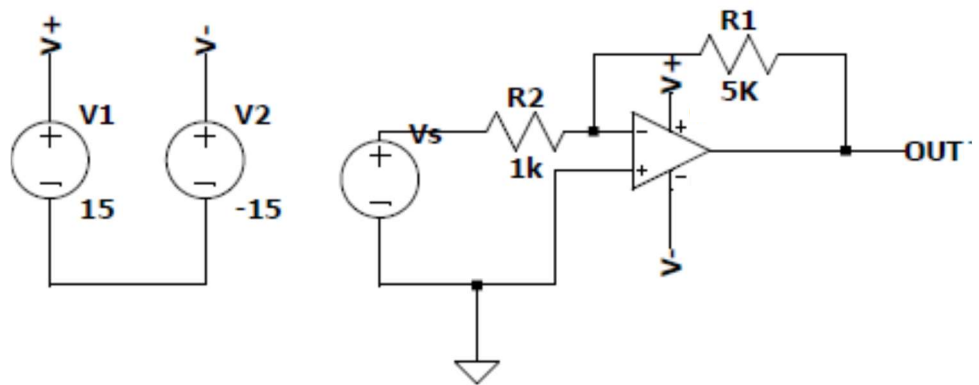
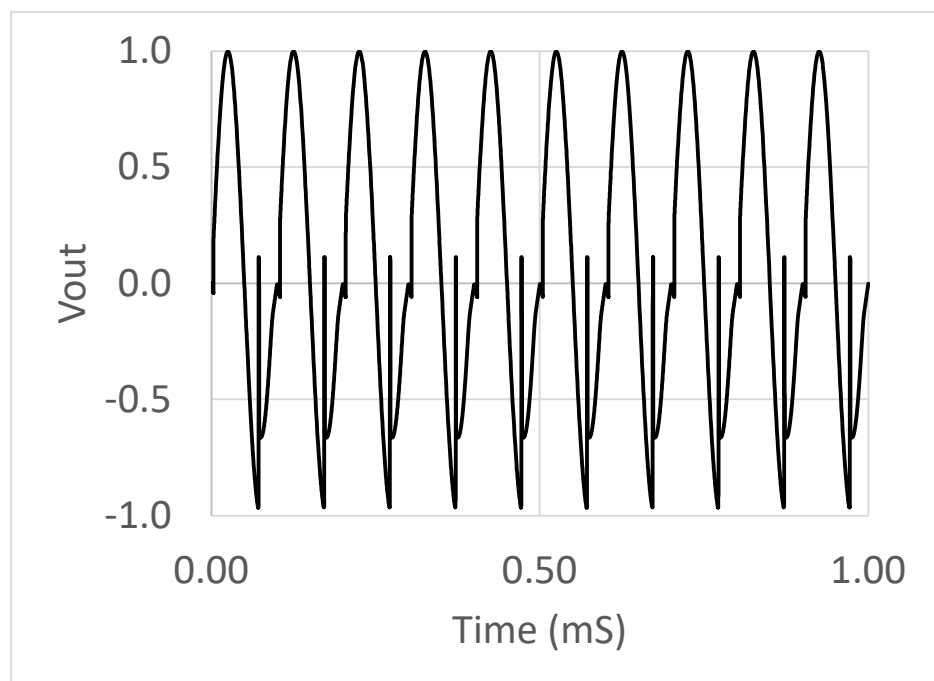

Figure Q2a
Figure Q2b
- a) You have designed an inverting amplifier using a LM358 Op-Amp. You put the schematic shown in Figure Q2a into a SPICE simulator to test your design before building a prototype. When you run the simulation you obtain the output voltage waveform shown in Figure Q2b
- ii. Considering the requirement for bias current to each input of the op-amp, what modification would you make to the layout in Figure Q2a? [8]